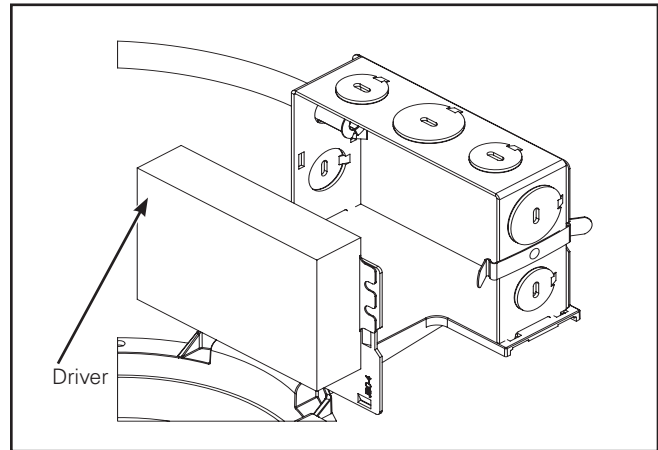

Figure 13
- Remove the driver and junction box cover assembly. (Figure 13.).